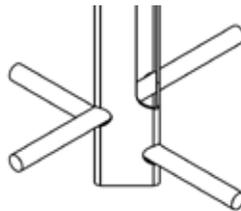

Figure 3: Installation on a mounting post
1. Place the bars displayed below in the corresponding gaps on the bottom of the post. See figure 3. Together, these form the ground anchor.